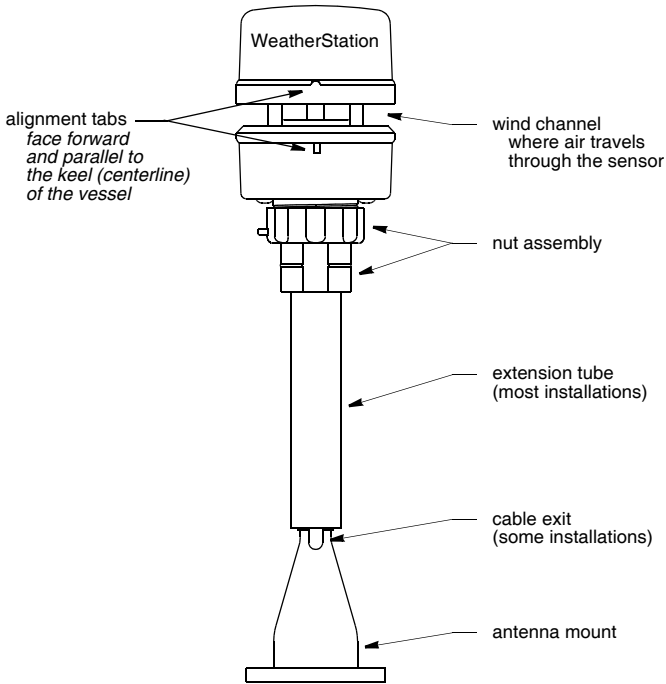
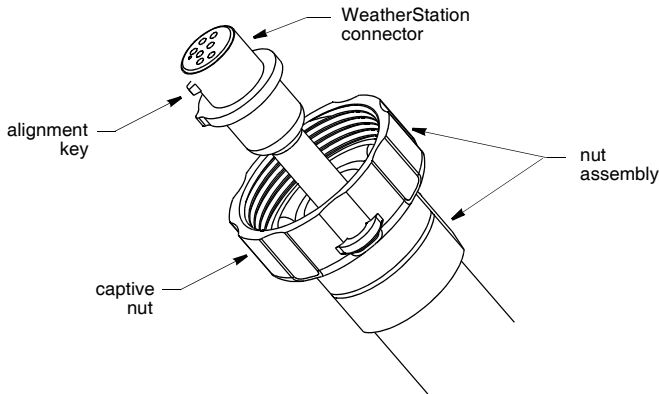

Figure 4. Installation
Figure 5. Connector
2. Position the antenna mount at a 90° angle to the deck. If necessary, use shims to make the mounting surface level (see Figure 4).
6. With the nut assembly on the cable near the WeatherStation connector, thread the cable through the extension tube (if used), antenna mount, and the cable exit. Allow several inches of cable topped by the connector above the nut assembly (see Figure 5).
9. *Be sure* the alignment tabs on the WeatherStation instrument are facing forward and parallel to the keel (centerline) of the boat (see Figure 4). Slide the captive nut upward and screw it onto the base of the WeatherStation instrument (see Figure 5). **Hand-tighten only.** Do not over tighten. *Be careful NOT* to rotate the WeatherStation instrument or loosen the nut assembly from the antenna mount/extension tube. *Double check to be sure* the alignment tabs are still facing forward.